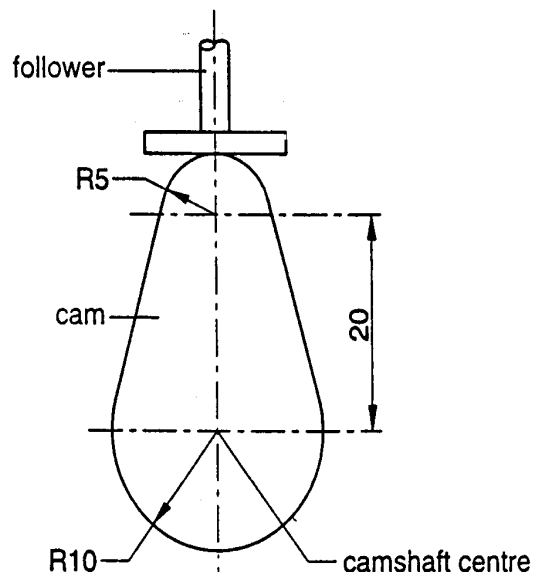

Fig. 4
Fig. 4 shows a simplified version of the cam and follower arrangement that opens and closes the valves of the engine.
- (a) (i) On Fig.4 clearly mark the dwell angle. [1]